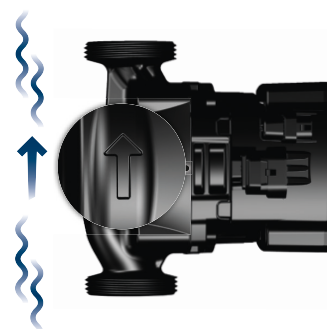

Fig. 1 Flow direction
1. The arrows on the pump housing indicate the flow direction through the pump. See fig. 1.